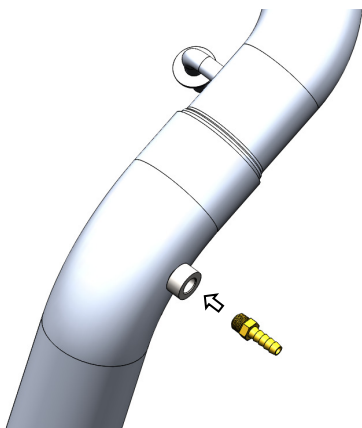

Figure 7
10. Wrap the threads of the **1/8" NPTF HOSE ADAPTOR** with Teflon tape and install it into the threaded bung on the **RHS Intercooler Pipe**. Refer to **Figure 7**